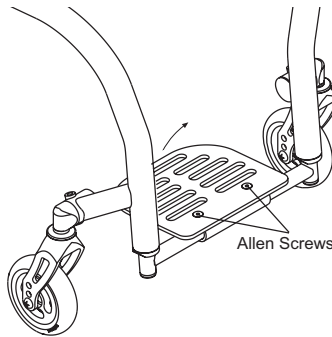
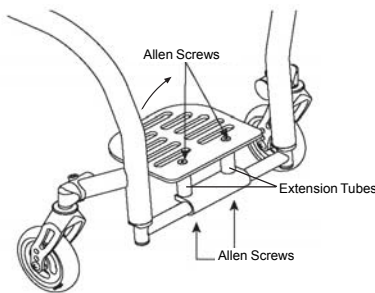

Figure 11
Figure 12
1. Loosen, but do not remove, the Allen Screws. See Figure 11. If your footrest has extension tubes (see Figure 12), you will have 3/16" Allen Screws in place of lock nuts and you will only need to loosen these latter Allen Screws to adjust the angle.